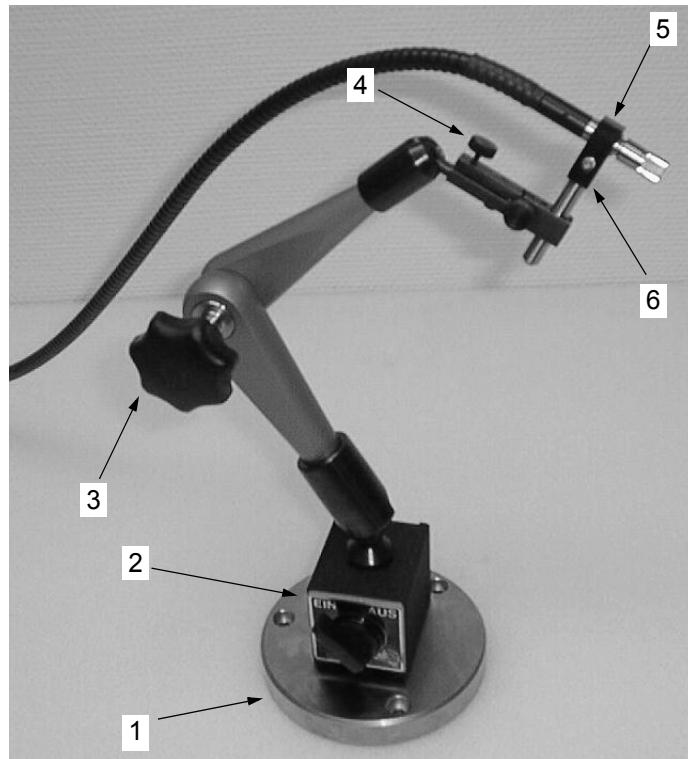
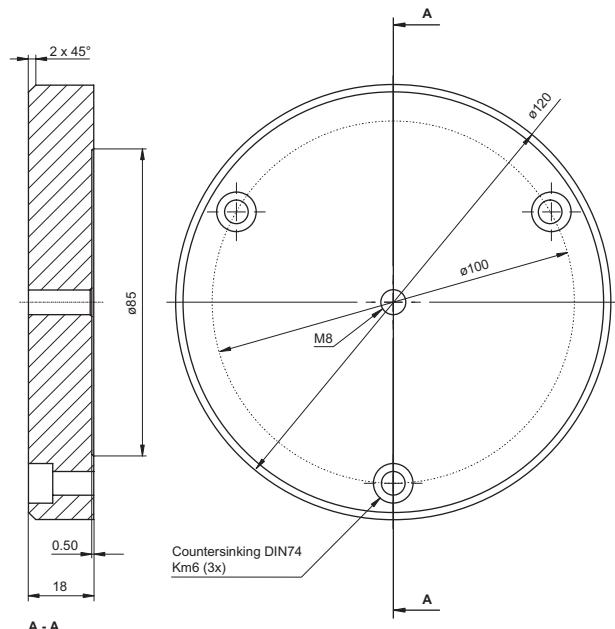

Figure A.5: Flexible arm OFV-039 for the mini sensor
Figure A.6: Base plate for the flexible arm OFV-039 (dimensions not specified are given in mm)
The flexible arm OFV-039 is a mount device for the mini sensor of the sensor head OFV-511/-512. The mini sensor can thus be easily positioned in places which are difficult to access. The heavy steel base ensures that it stands securely and if required the steel base can be screwed onto the surface beneath via the drilled mounting holes (refer to figure A.6). Alternatively, the flexible arm can be attached to any magnetic surface which is large enough using the magnetic base. The flexible arm is shown in figure A.5.
- 1 Base plate with drilled mounting holes (refer also to figure A.6)
Base plate dimensions: refer to figure A.6